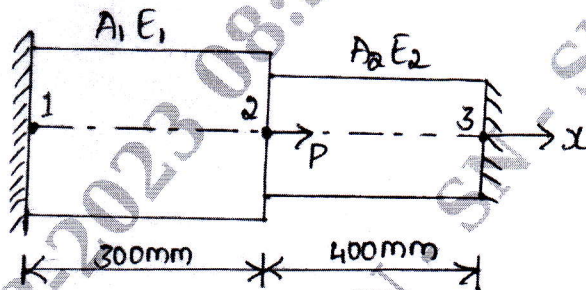

Fig. Q4 (b)
- b. Consider the bar shown in Fig.Q4 (b). An axial load  $P = 200 \times 10^3$  N is applied as shown using penalty approach for handling boundary condition. Determine nodal displacement and stress in each element.